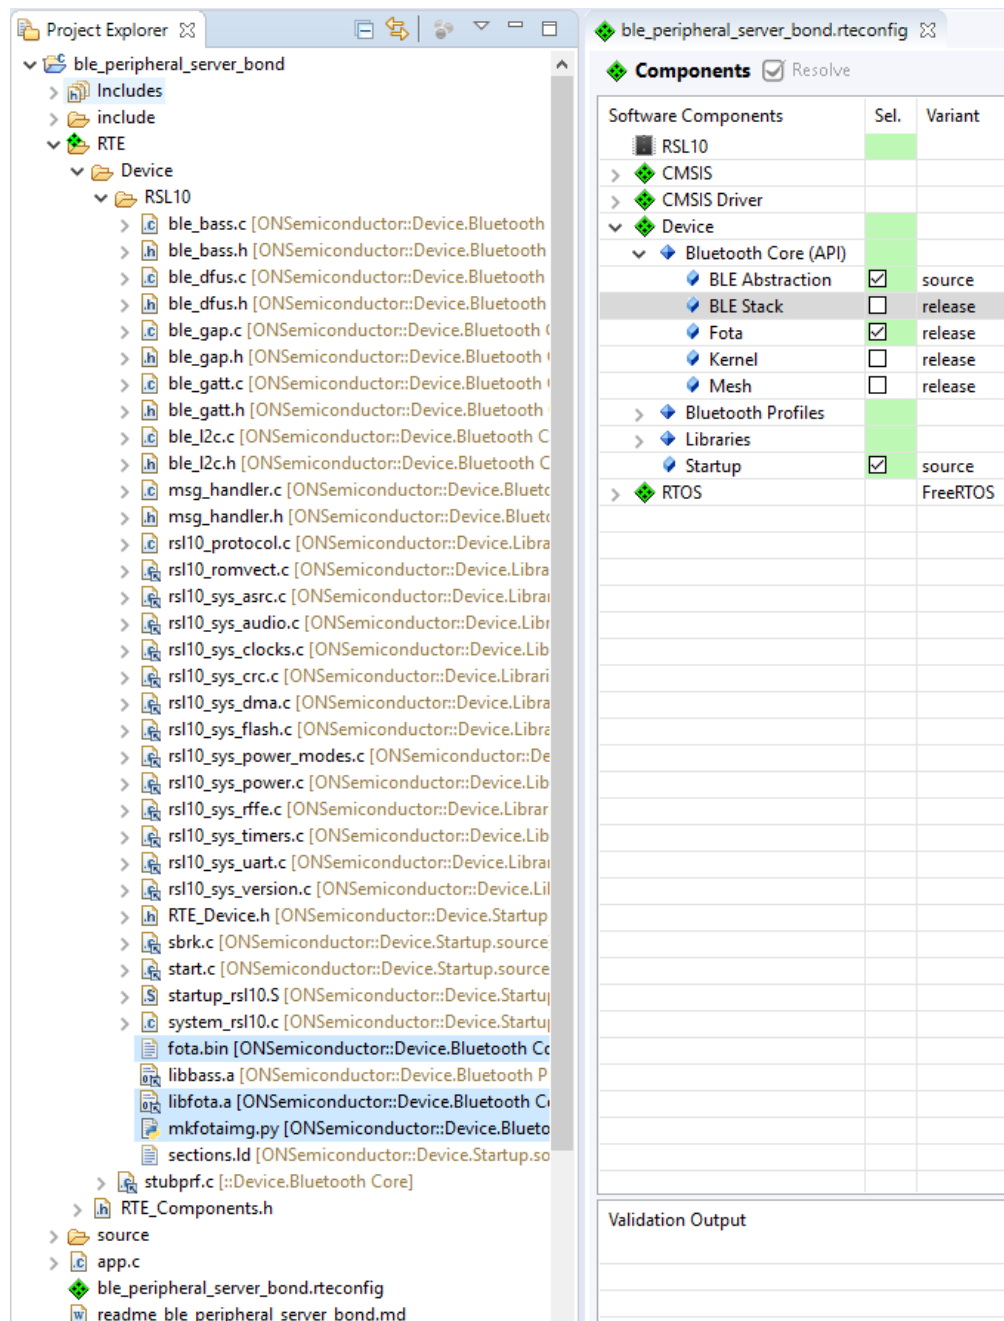

Figure 14. Adding the FOTA Software Component
2. Add the FOTA software component to your project by using the RTE Configuration Wizard (the *ble_peripheral_server_bond.rteconfig* file). When you select the **Fota** component and click save, *libfota.a*, *fota.bin* and the tool *mkfotaimg.py* are copied into your project, under **RTE > Device > RSL10**. In addition, you need to deselect the **BLE Stack** and **Kernel** components and click to save, as shown in Figure 14.